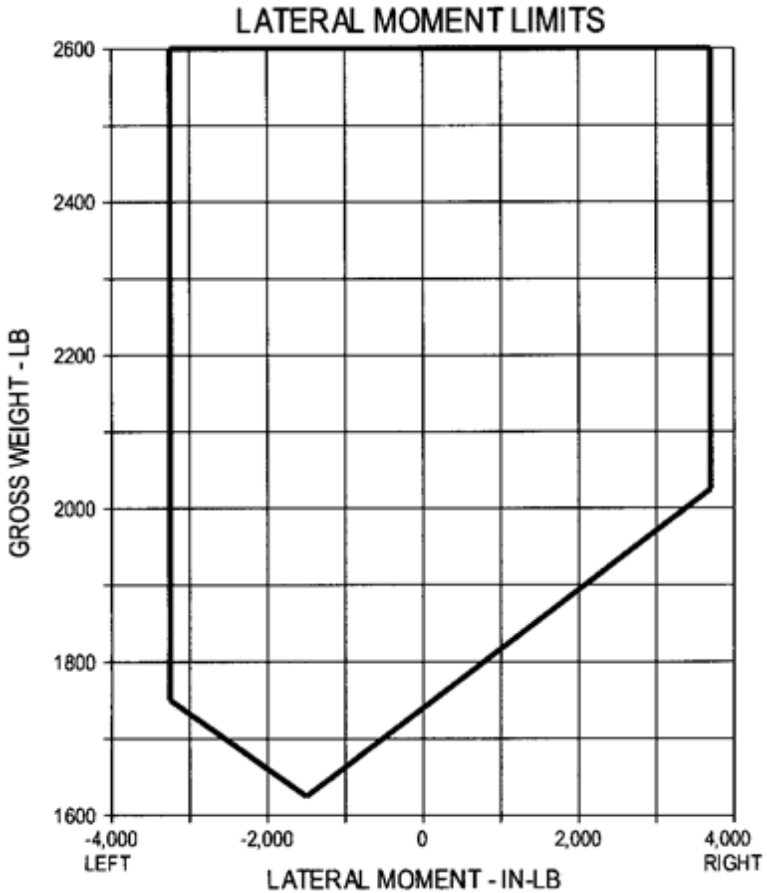
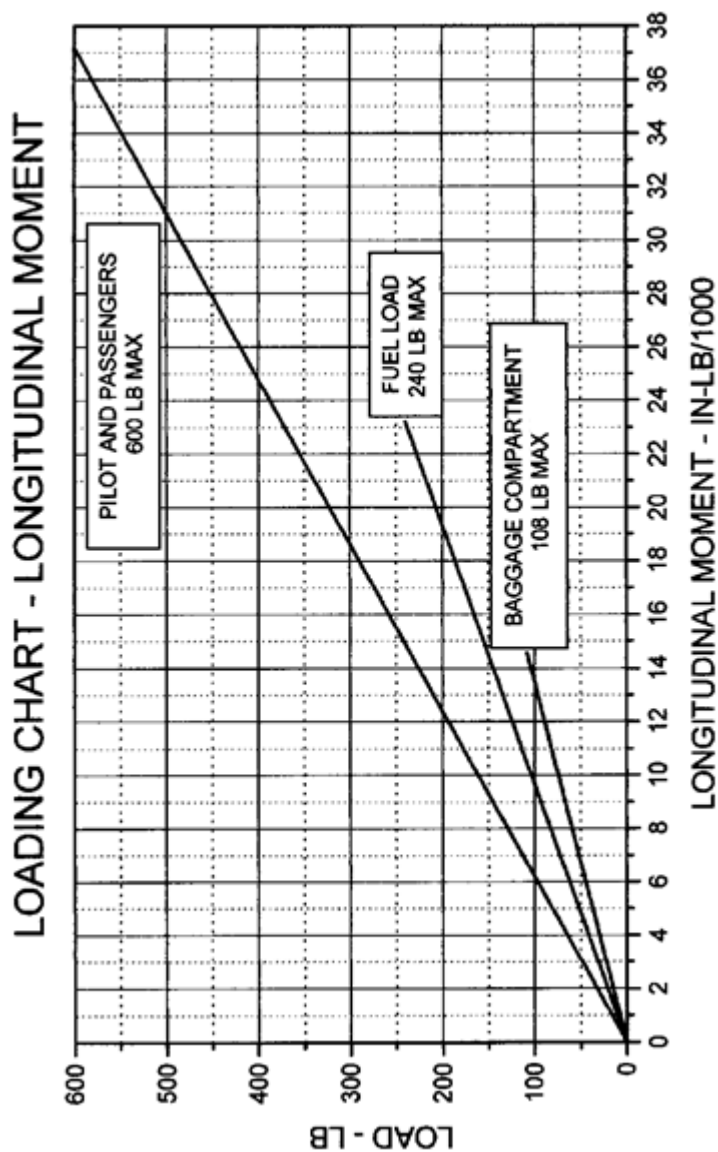

Figure 6-2. Lateral Offset Moment Envelope
Figure 6-5. Loading Chart
3. Approved lateral offset moments vary with gross weight from -3250 in-lb to +3700 in-lb (reference Figure 6-2). Lateral offset is the same for all V_{NE} envelopes.
1. It is the responsibility of the helicopter pilot to ensure that the helicopter is loaded properly. Using the running basic weight and moment from the Weight and Balance form (Figure 6-8) and the loading chart (Figure 6-5), the pilot can obtain the total weight and moment for various loading conditions. The pilot should first calculate the total weight and moment for zero usable fuel, as this will show the c.g. shift with fuel burn-off. If the c.g. is within limits, add the planned fuel load and compute the c.g. If the c.g. is within limits, the last item to check is the lateral offset moment using the stations in Paragraph 6-2, Step 2 and Figure 6-2.
(1) Moments obtained by multiplying weight times arm or from Loading Chart, Figure 6-5.
(2) The longitudinal c.g. relative to the datum line is found by dividing the moment by the weight.
- a. Plot 2350 lb and +1610 in-lb on Figure 6-2 to ensure moment is in approved area.